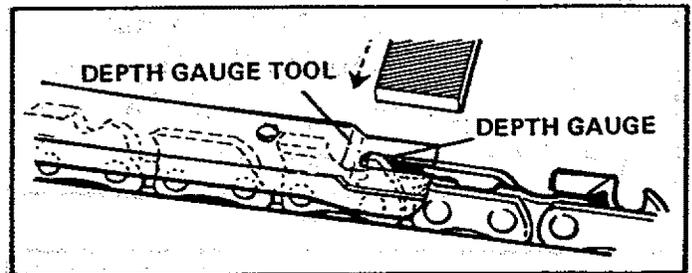

Figure 39
- Place depth gauge tool over each cutter depth gauge. Figure 39.